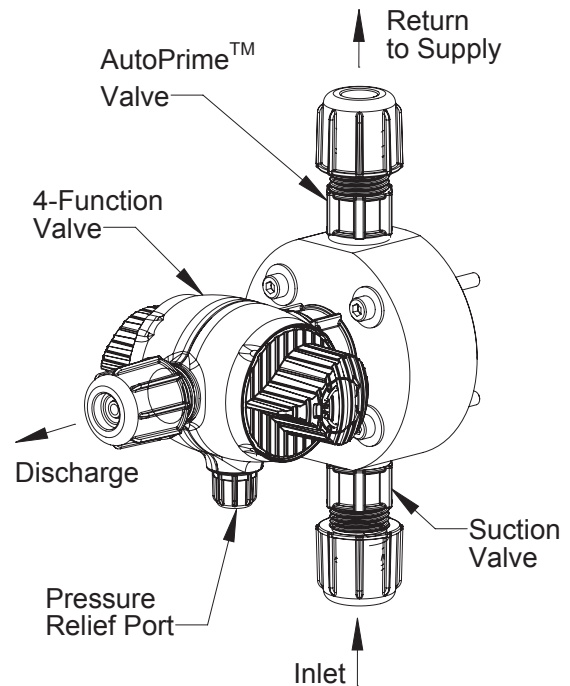

FIGURE 3
Please note: The chemical discharges through the ROYTRONIC® 4-function valve which is mounted to the front of the AUTOPRIME™ liquid end, as seen in Figure 3.
1. Connect pressure relief tubing to the pressure relief port (Figure 3). Route tubing to the solution tank. This tubing must not be submerged in the solution.